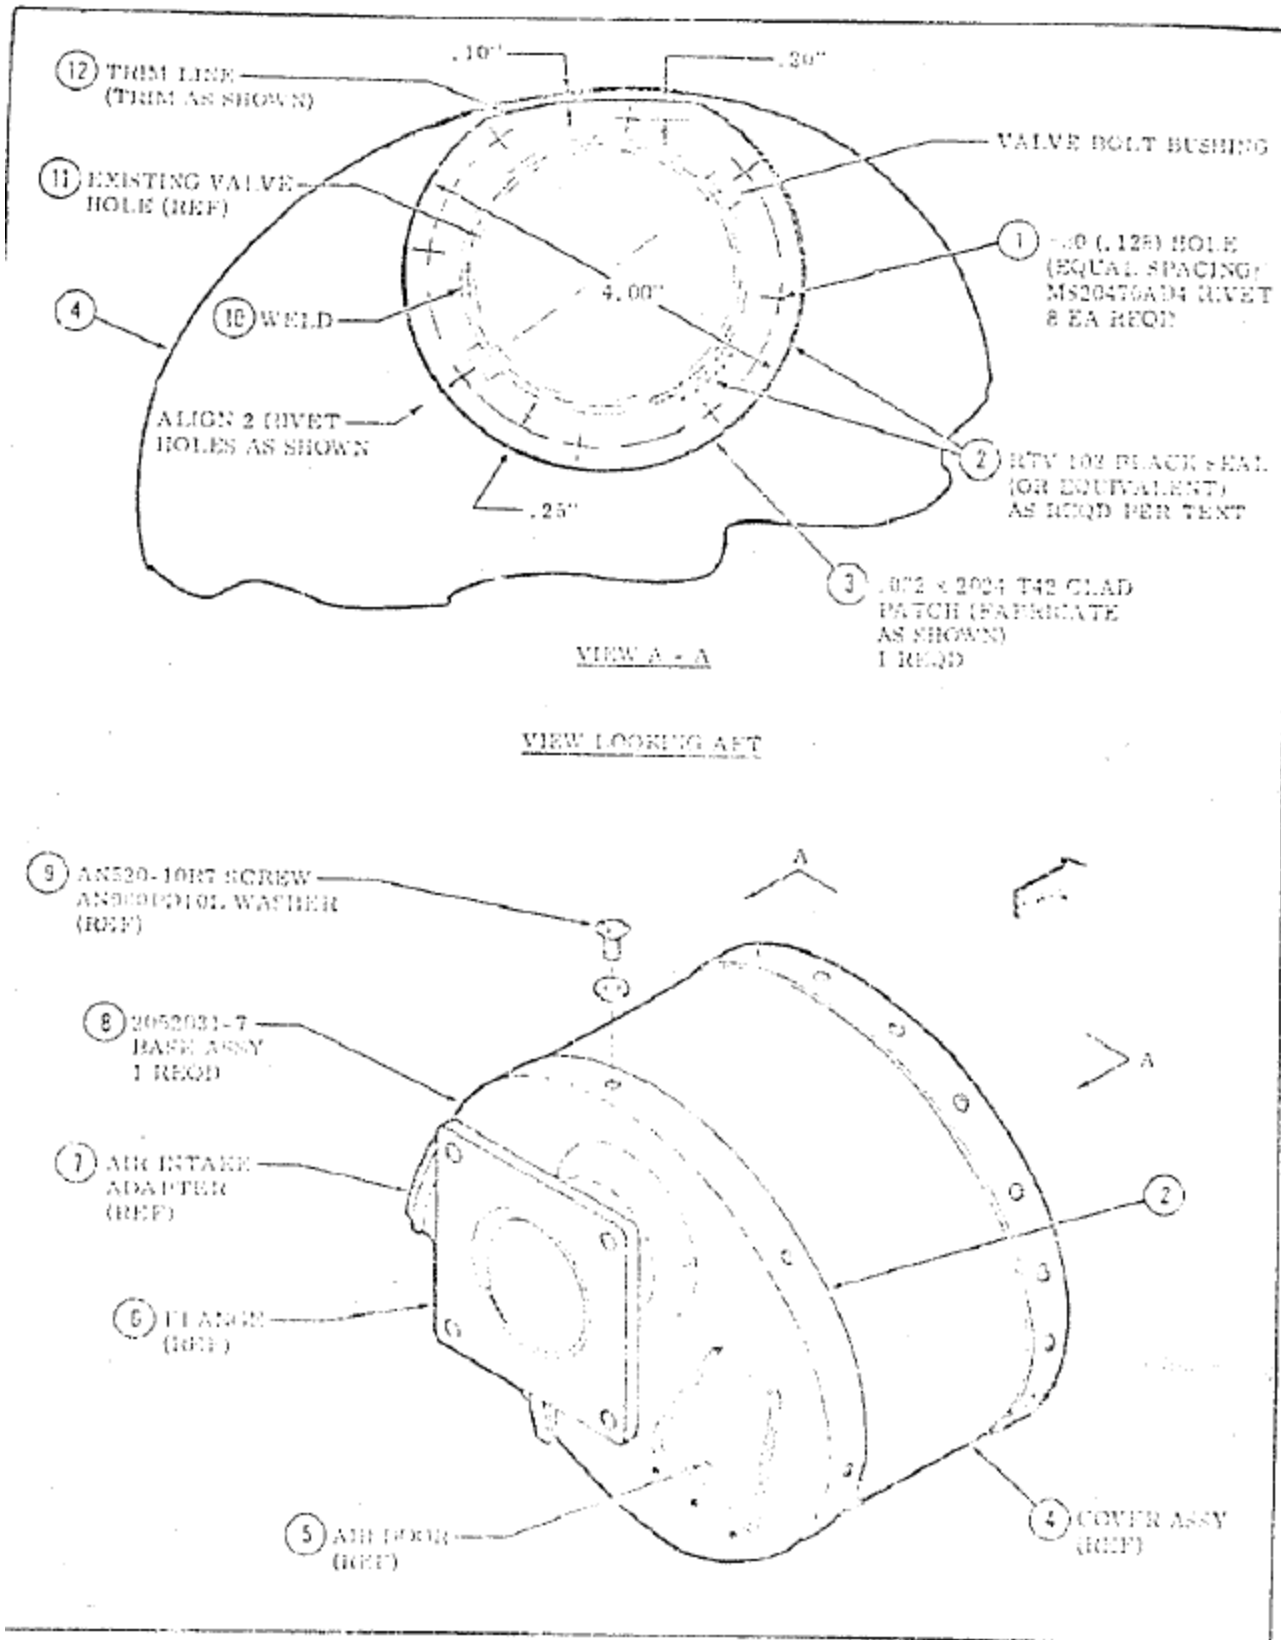

Figure 1. Piston Chamber Modification
- a. (Refer to figure 1.) Plenum Chamber Removal.
- (1) Remove cowl and nose cap from aircraft to gain access to plenum chamber.
- (2) Remove hose from intake adapter (7).
- (3) Remove safety wire and attaching hardware securing plenum chamber flange (6) and remove chamber from aircraft.
- b. (Refer to figure 1.) Plenum Chamber Modification.
- (1) Remove and retain 6 screws and washers (9).
- (2) Separate existing base from cover (4) and discard base.
- (3) Remove and discard all existing air valve parts from cover (4).
- (4) Fabricate patch (3) in accordance with material specifications and dimensions shown and as follows: